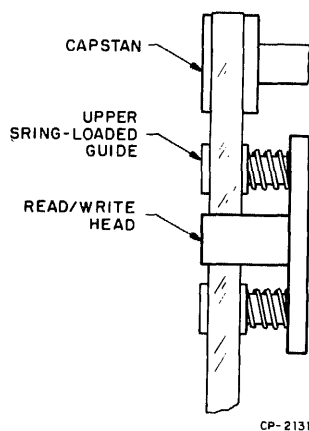

Figure 5-51 Location of Upper Spring-Loaded Guide on Capstan
- b. While tape is running forward, move upper spring-loaded guide (Figure 5-51) away from tape. Skew jitter must not increase more than $2 \mu\text{s}$ (take care not to touch tape).